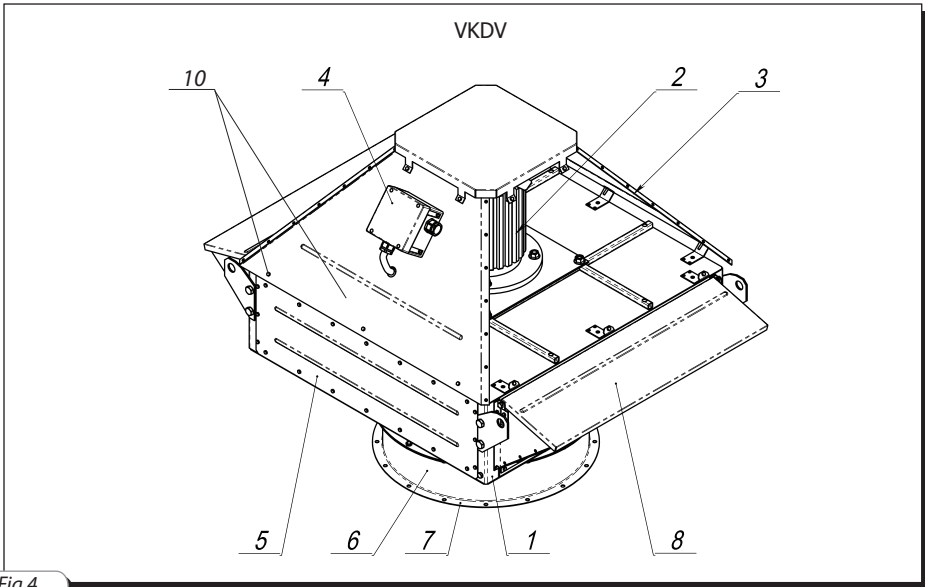
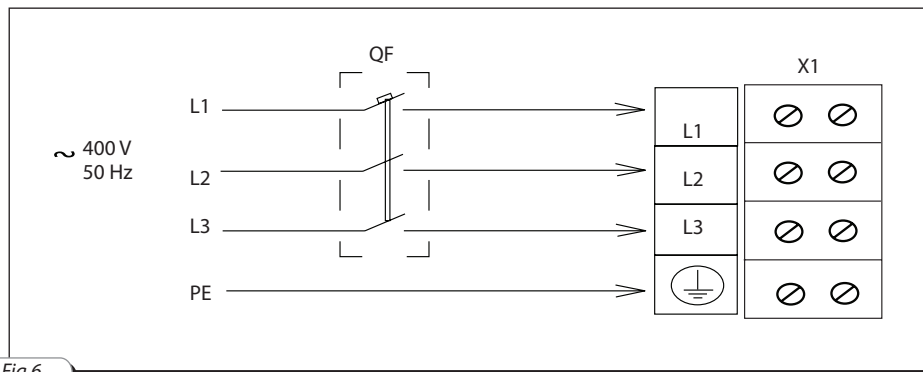

Fig. 4
Fig.6
Connect the cables to the terminal block incorporated inside the fire-resistant terminal box (item 4, fig. 4,5) located on the fan casing in compliance with the fan wiring diagram (fig. 6) and the terminal designation. The electric parameters of the fan are shown on the sticker inside the fan casing.
- remove the protecting hood (item 3, fig. 4,5)
- remove the fixing screws (item 10, fig. 4,5)